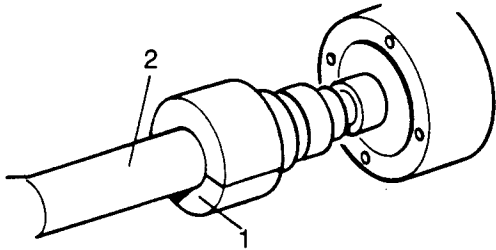

Fig L5.13
- (2) Refer to Fig L5.13. Locate the two halves of the split bush (1) on the top cone of the shaft (2).
- (3) Insert the assembly of shaft and bush into the housing from the bottom.